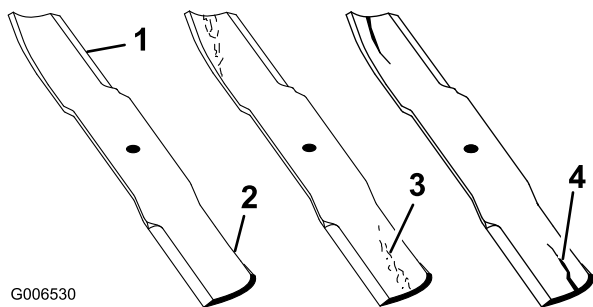

Figure 59
1. Inspect the cutting edges (Figure 59). If the edges are not sharp or have nicks, remove and sharpen the blades. Refer to Sharpening the Blades.
2. Inspect the blades, especially the curved area (Figure 59). If you notice any damage, wear, or a slot forming in this area (item 3. in Figure 59), immediately install a new blade.